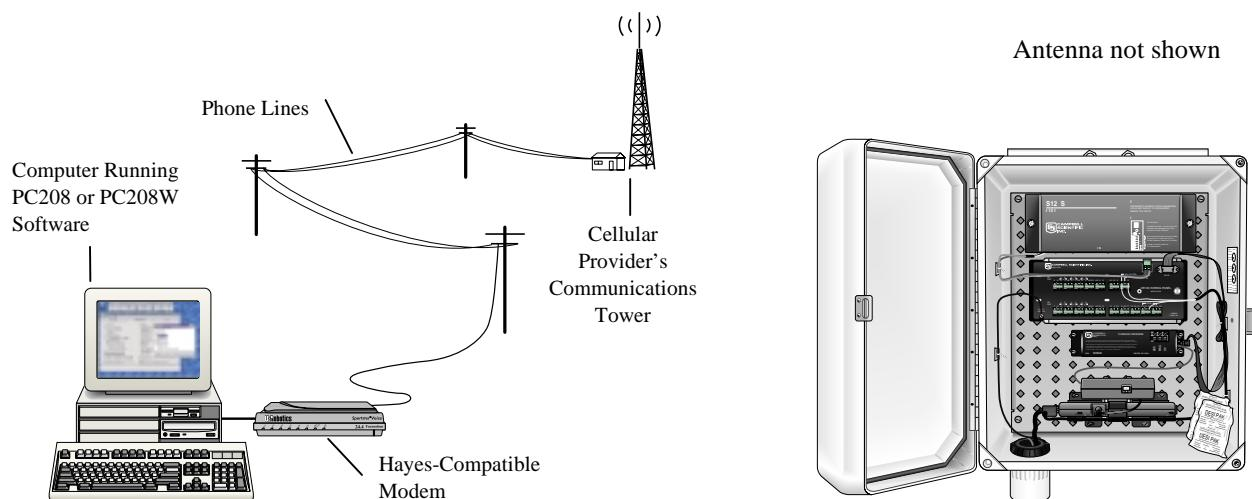

FIGURE 1-1. Cellular Telecommunications
The Motorola M600 Cellular Transceiver has an external RJ11C telephone interface. A standard RJ11C patch cable connects the Campbell field modem (COM200, COM210, COM300, COM310) directly to the transceiver. A computer equipped with the PC208(W) Datalogger Support Software and a Hayes compatible phone modem connected to a standard phone line is used to call the cellular equipped stations (see Figure 1-1).